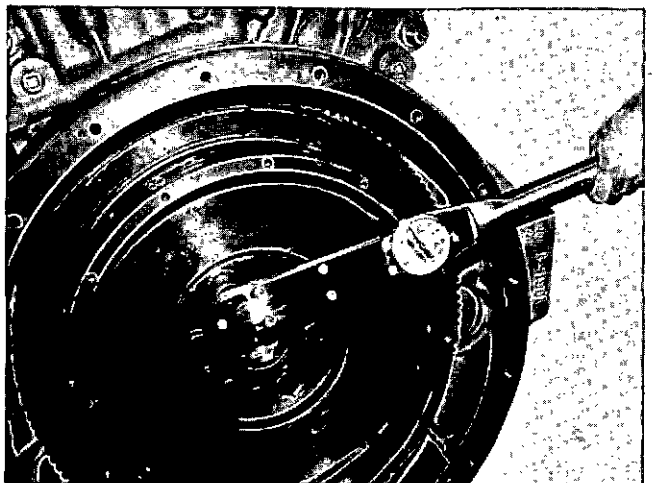

Fig. 14-1-94, V414180. Tighten flywheel capscrews
4. Tighten capscrews to 280 to 290 ft-lb [38.7240 to 40.1070 kg m]. Fig. 14-1-94.